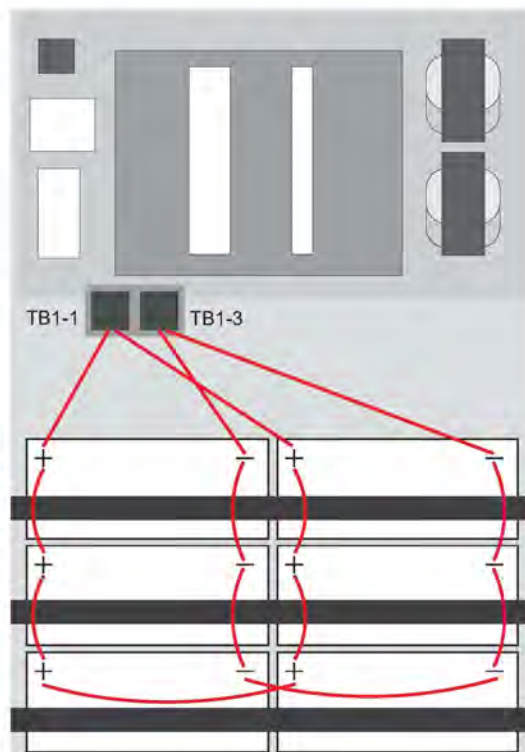

Figure 7
**6.1.5.** Make sure the proper polarity is observed. DC bus should be between 23.1 and 27.6 Vdc as tested at the Battery Bus Terminals (Refer to Figure 7 and 12—System Component Layout).